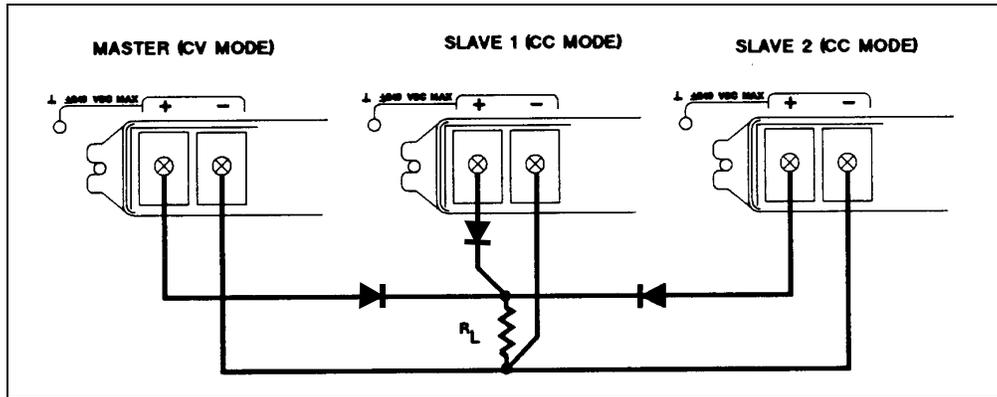

Figure 4-9. Using Series Diodes with Auto-Parallel Operation
2. **Insert Protection Diodes.** If you connect all supplies to the load through a series diode (see Figure 4-9) and a unit's crowbar SCR trips, it will not draw current from other supplies. Be certain to increase the programmed voltage level of the slaves by at least 0.7 V to compensate for the voltage drop in the diode.